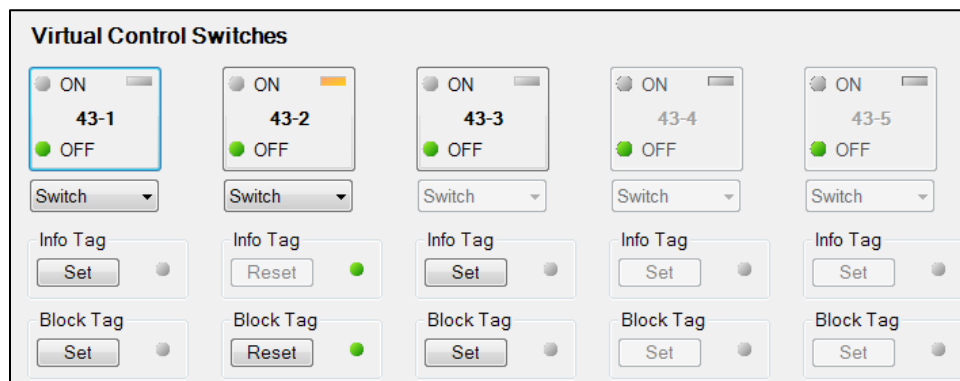

Figure 69-2. BESTCOMSPiPlus Virtual Switches Control Screen
- Step 4: Use the Metering Explorer of BESTCOMSPiPlus to open the Control, Virtual Switches tree branch (Figure 69-2). Using select-before-operate, perform the following steps to control a virtual switch.
- Step 3: Use the Metering Explorer of BESTCOMSP^{Plus} to open the Control, Virtual Switches tree branch (Figure 69-2). Using select-before-operate, perform the following steps to control a virtual switch.